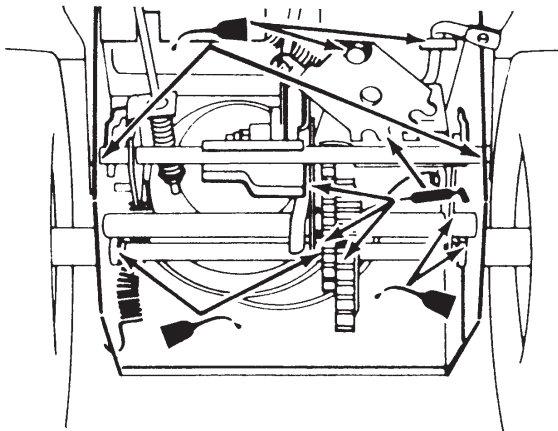

Figure 28
6. Lightly lubricate the snowthrower with light oil as shown in Figure 28.
8. Grease the snowthrower as shown in Figure 28.